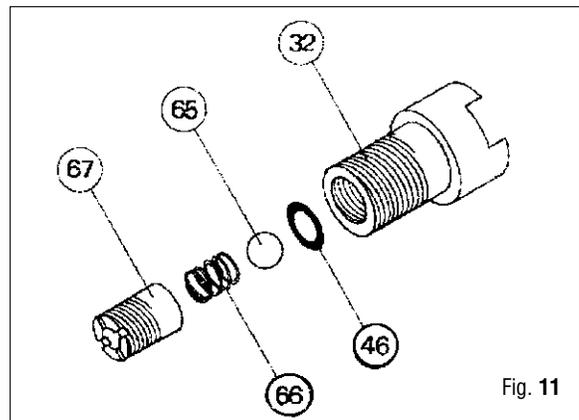
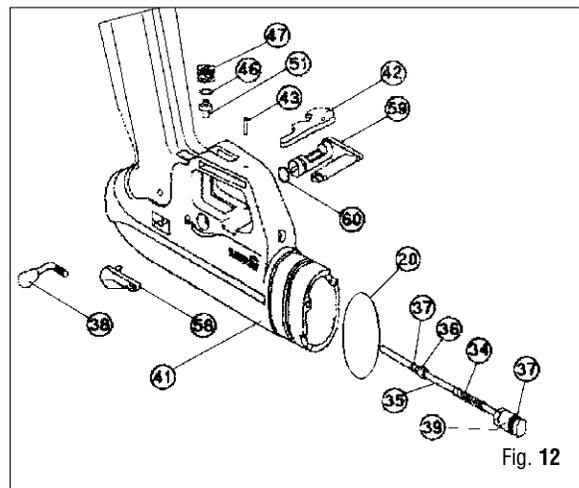
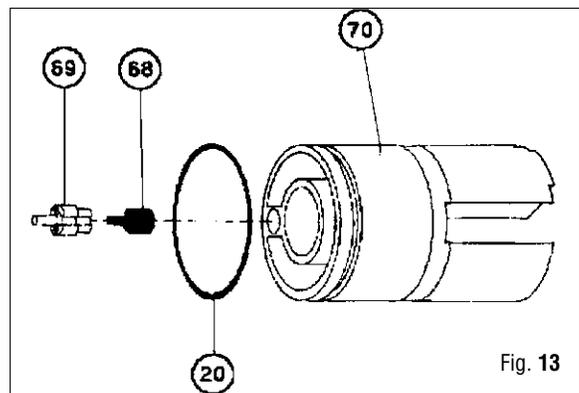

Fig. 11
Fig. 12
Fig. 13
**NOTE** The guide bushing (51) for the 1.5 mm. diameter connecting plunger is fitted in the handles of apnea system Cyrano 700 and Cyrano 970 spearguns and in the handles of all Cyrano models starting from serial number 94336001.
28. Remove line retainer pin (43) with a pin punch, then remove line retainer (42).
30. With a Philips screwdriver, remove the inlet bushing (67) and spring (66) (Fig. 11).
31. Remove ball (65) from the inlet valve body (32).
32. Remove o-ring (46) from the inlet valve body.
33. Slide handle (41) rearward off of the barrel (26).
34. Remove o-ring (37) from o-ring seat (39) of the power adjustment rod (Fig. 12).
35. With a 7 mm wrench, unscrew power adjustment rod (34-35-37-39) from power adjustment lever (38).
**NOTE** If the o-ring seat (39) unscrews from power adjustment rod (35), the rod must be completely removed from power adjustment lever (38) by clamping the rod with plastic jaws. After removing the power adjustment rod put a drop of thread compound (Loctite 270) in the threaded hole of o-ring seat (39) and tighten it securely on the power adjustment rod (35).
36. Remove power adjustment rod (35-39) and spring (34) from handle (41).
37. Remove spring (34) from power adjustment rod.
38. Remove power adjustment lever (38) from handle (41).
39. Remove the power adjustment rod bushing (36) and o-ring (37) from handle.
40. Remove O-ring (20).
41. With a pin punch, remove catch hook pin (57), catch hook (50) and spring (44) from the barrel (26).
43. Remove one-way housing (69) and one-way seat (68) from power regulating block (Fig. 13).
44. Remove o-ring (20) from power regulating block.
45. Remove o-ring (71) from barrel with tool A-7.
10. Insert the one-way seat (68) into the power regulating block (70) (Fig. 13).
11. Position the one-way housing (69) over the one-way seat (68) and press into place (Fig. 13).
12. Place o-ring (20) into the groove of the power regulating block (70) (Fig. 13).
25. Position o-ring (46) in inlet valve body (32) seat, with tool (A-13) (Fig. 11).
26. Center the inlet ball (65) on o-ring (46).
27. Place spring (66) inside of the inlet bushing (67).
**NOTE** Applying a small amount of grease on the spring (66) will retain the spring in the inlet bushing (67) during assembly.
28. Tighten inlet bushing (67) into valve body (32) using a Philips screwdriver